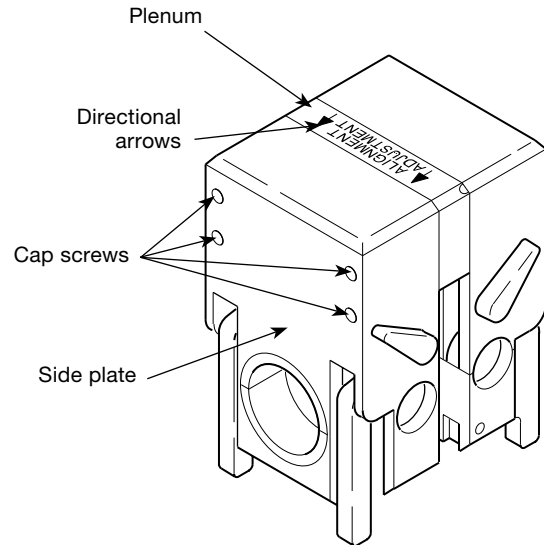

Figure 22 Loosening the Side Plate
1. Turn the fixture block over and locate the directional arrows on the plenum. The arrows point to the appropriate side plate. See Figure 22.
2. Using the provided 3/32 in. hex wrench, unscrew the four cap screws in the appropriate side plate just enough to loosen it from the plenum. See Figure 22 to locate the appropriate side plate.